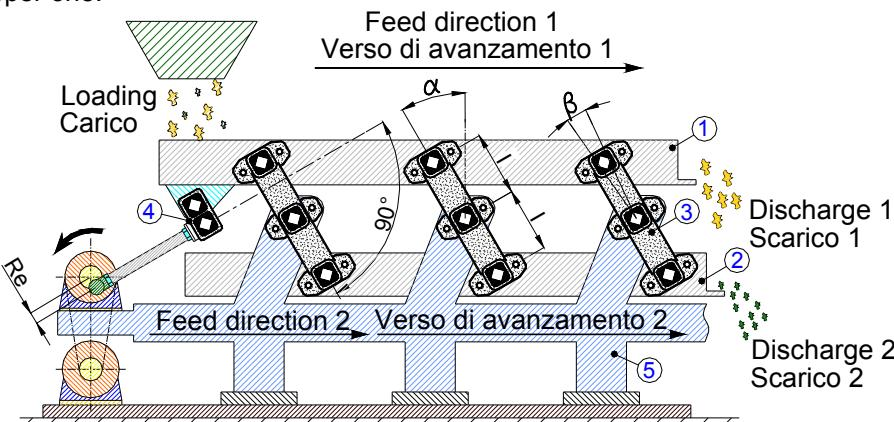

fig.4
With high dynamic and inertial forces, and any time there is the need for an efficient and high-performance conveyor, we recommend that you use an oscillation system with mass and counter mass because stresses are never completely discharged in foundations but dynamically compensated by the two oscillating masses. Fig. 4 illustrates the diagram of a two-balanced-mass oscillating conveyor actuated by a connecting-rod/crank device. This plant consists of a chute supported by **TD-S** suspensions and actuated by **TB** or **AD-P** elastic element that acts as elastic joint (**AD-P** suggested in case of resonance condition application only). In this type of application crank shaft driven can be applied both on upper oscillating chute and lower counter mass. As alternative, **TD-S** can be replaced by **TD-F** which changes only in the fixing operation as shown in the following catalogue pages. The sliding channel (1) and the counter mass (2) have the same weight. Therefore, while oscillating, their two masses are dynamically balanced because one moves in the opposite direction to the other. This system also allows to take advantage of the counter mass oscillation to get a second sliding channel with the same direction of the upper one.